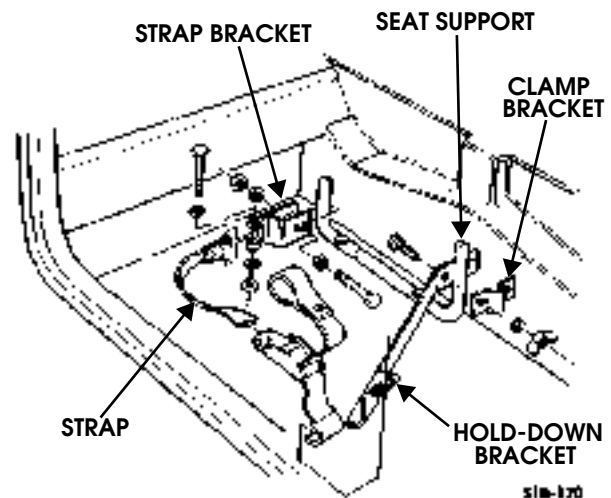

Figure 10-125: Emergency Equipment Hold-Down Bracket Replacement — Four-Passenger Vehicle
2. Remove two wing nuts, washers, screws, clamp bracket, and hold-down bracket from seat support (Figure 10-125).
1. Secure strap to strap bracket with screw, two washers, and nut (Figure 10-125).